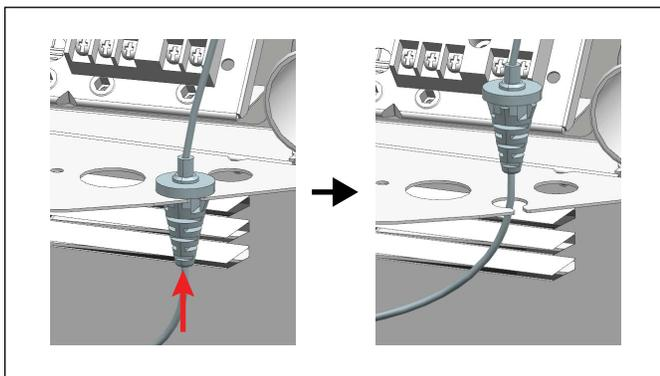

Figure 3 Remove Antenna Cable Strainer
4. Remove the antenna cable strainer from the bottom panel by pushing up from the bottom of the strainer (Refer to Figure 3).